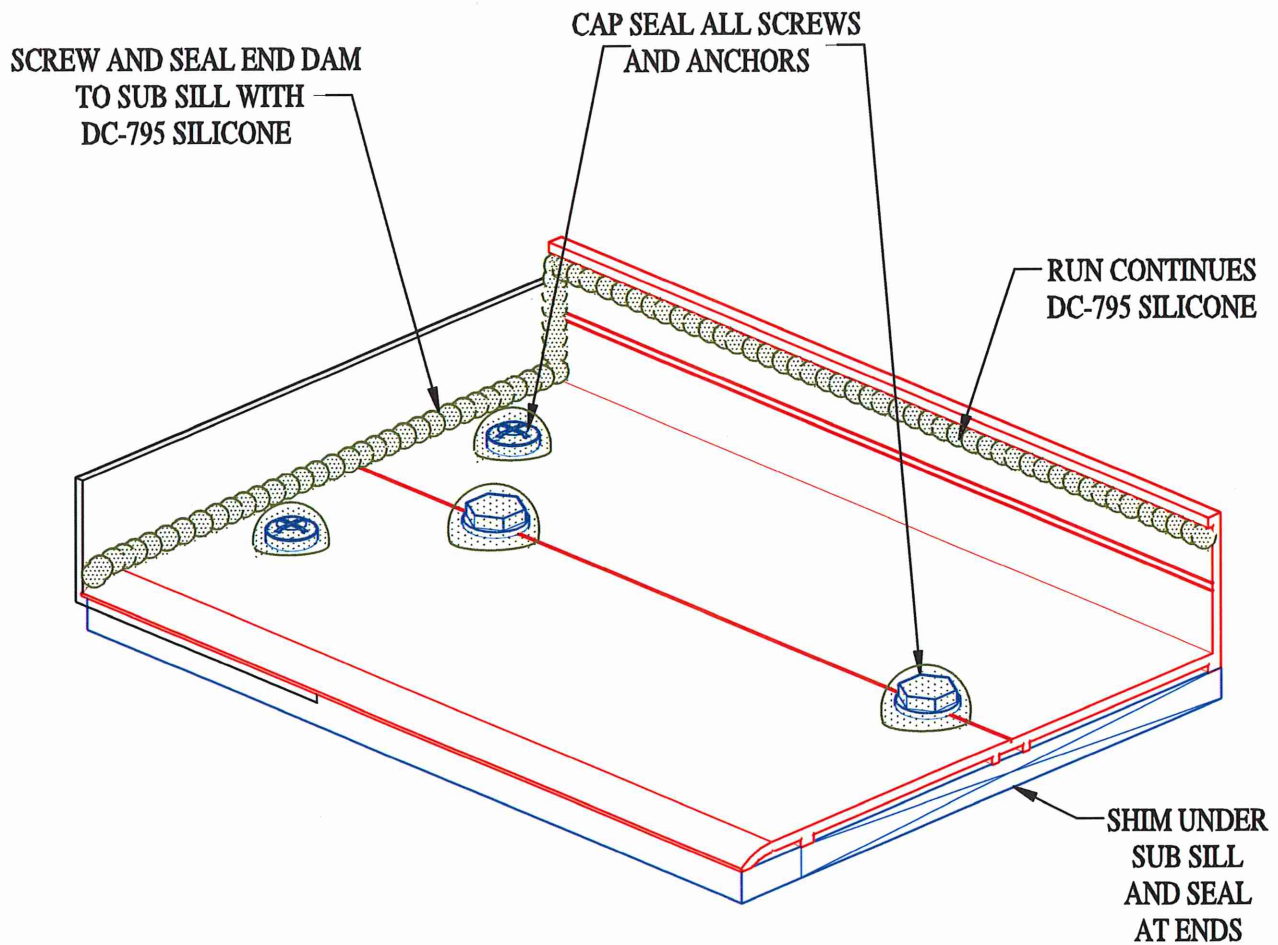

FIGURE 2.0
2.1 Install Sub Sill and End Dam, Sub Sill shall be installed level and should never tilt towards interior of building. DC-795 silicone shall be applied to installation. SEE FIGURE 2.0